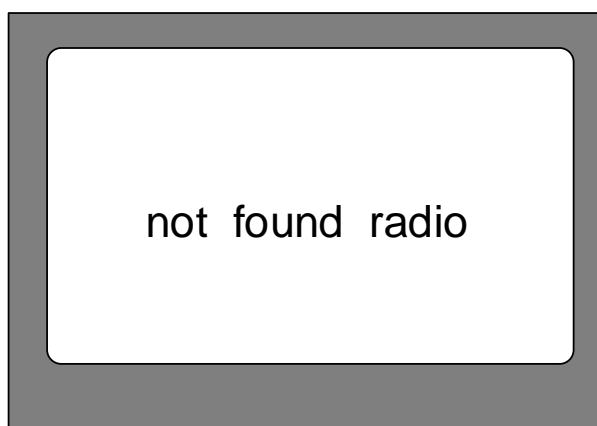

Figure 2-2. Startup Interface when RF Identification Failed
- The startup interface of RF identified failed is shown as Fig 2-2 (chip abnormal)